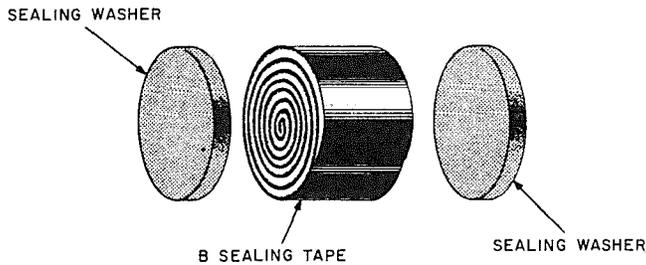
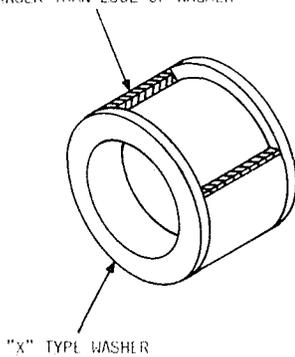

Fig. 23—B Sealing Tape Plug and Sealing Washers
Fig. 24—H-X or J-X Sealing Washer for Sealing Vacant Opening in End Plate
3.23 ♦ Fill any unused opening in the splice case with a solid plug of B sealing tape, with a solid sealing washer of the proper size placed at each end of the plug (Fig. 23) or with a H-X or J-X sealing washer as shown in Fig. 24.♦